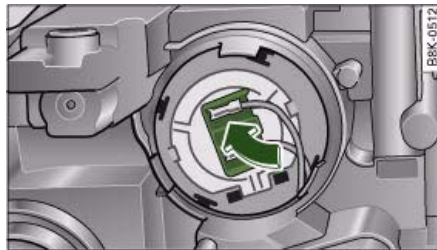

Fig. 293 Fitting bulb for main beam headlights
- Press the connector in the direction of the arrow ⇒ fig. 293 until the bulb engages.